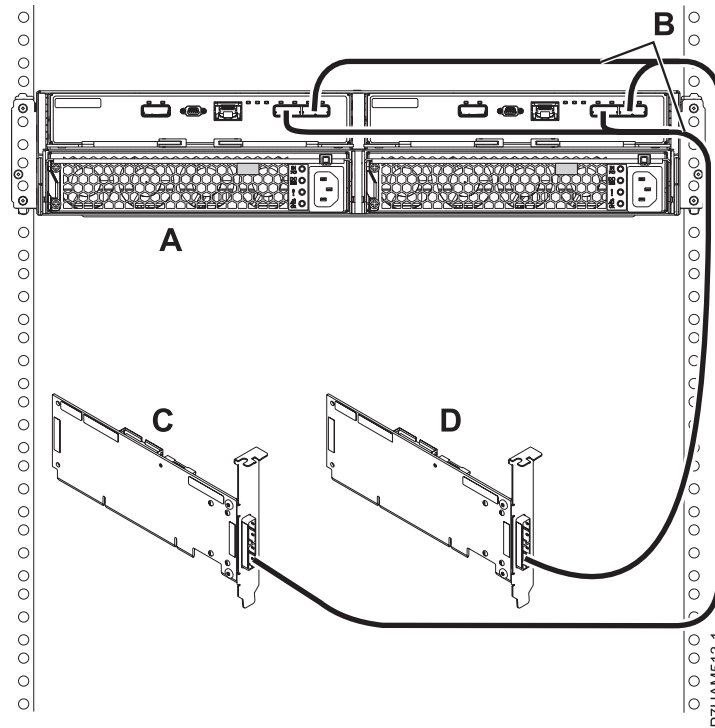

Figure 34. Mode 2 connection of one 58/87 disk drive enclosure by using YO cables to two independent SAS adapters
- o. Perform the mode 2 connection of one 58/87 disk drive enclosure (A) by using YO cables (B) to two independent SAS adapters as shown in Figure 34 on page 31.